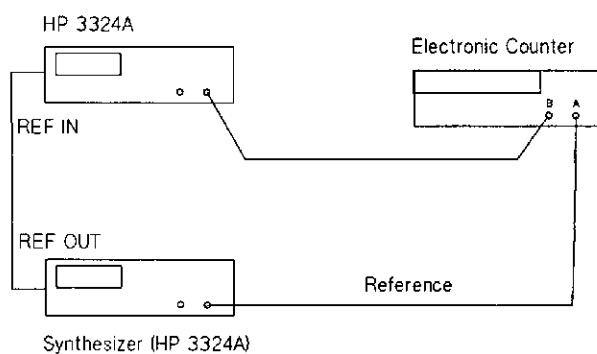

Figure 12-4. Phase Increment Accuracy Test Set-Up
1. Connect the equipment as shown in Figure 12-4.